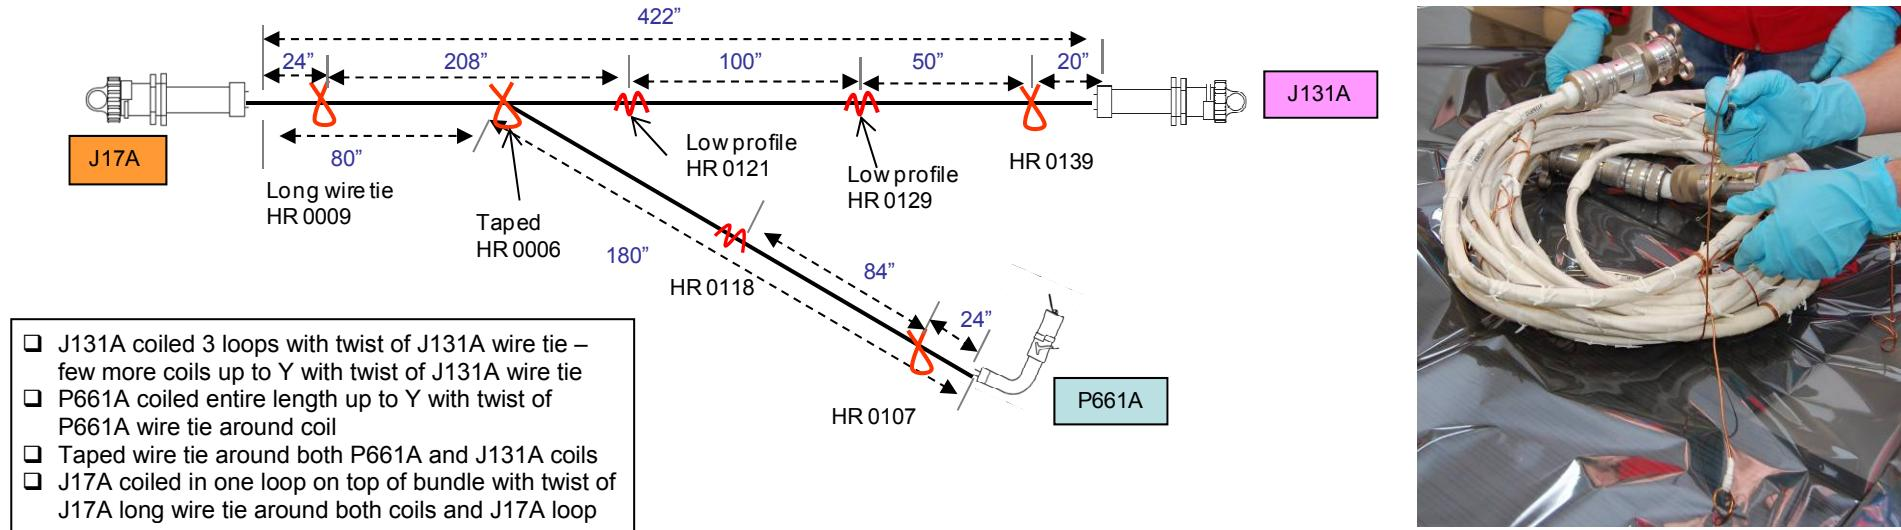

Figure 4: Ch 1/4 FGB Y-Cable (port)
- Ch 2/3 (stbd) Cables (bottom/back) (see fig 4)